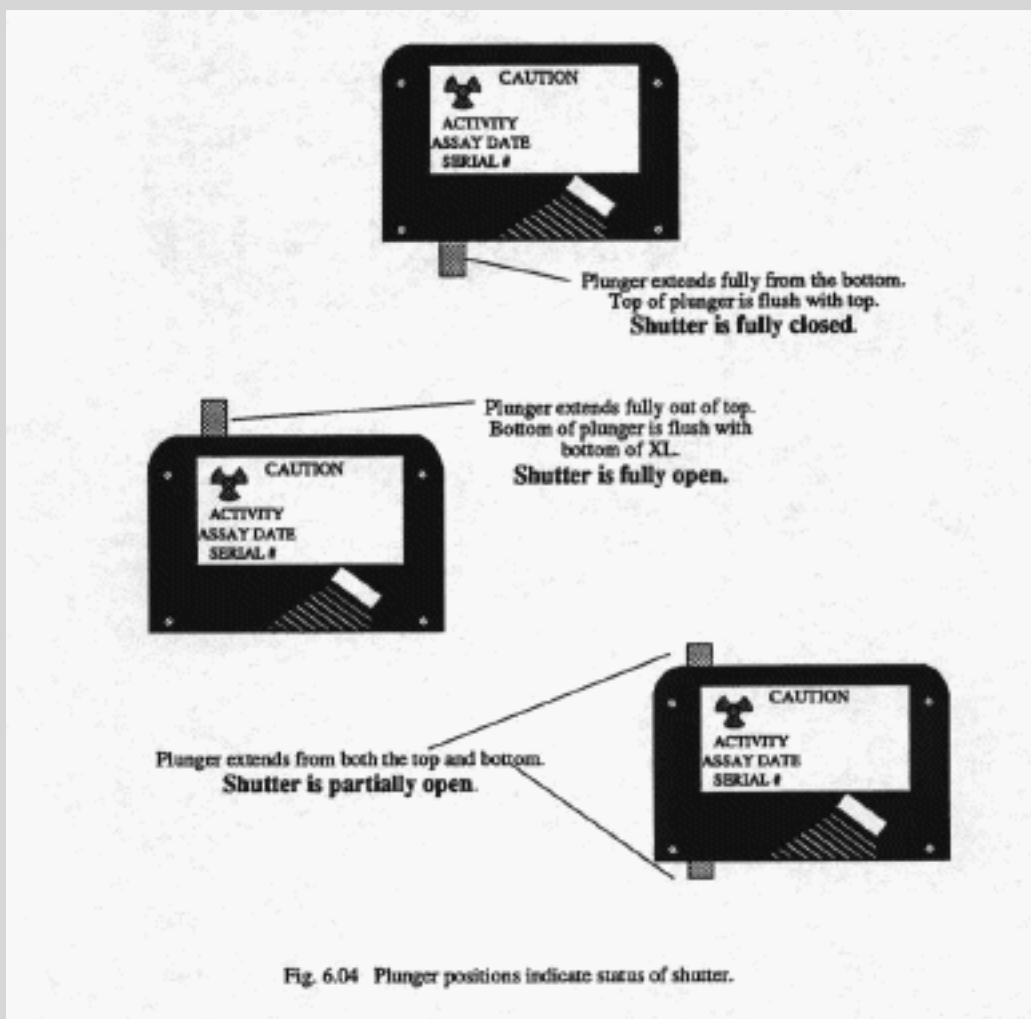

Fig. 6.04 Plunger positions indicate status of shutter.
3. Your NITON clearly indicates any time the shutter is open (**Figure 6.04**). The plunger will stick up through the instrument case whenever the shutter is open.
**Warning: In the unlikely event that the plunger gets stuck in the open position, simply push it closed. Then call the NITON Service Department at (401) 294-1234.**